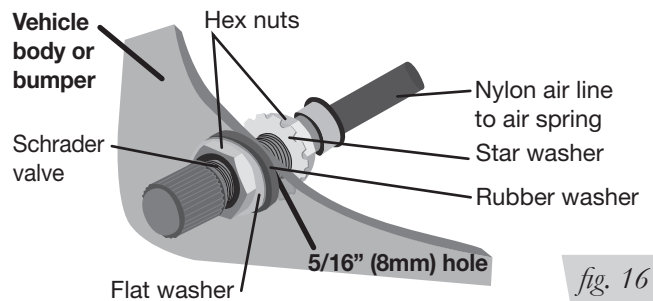

fig. 16
3. Install the Schrader valve in the chosen location (Fig. 16).